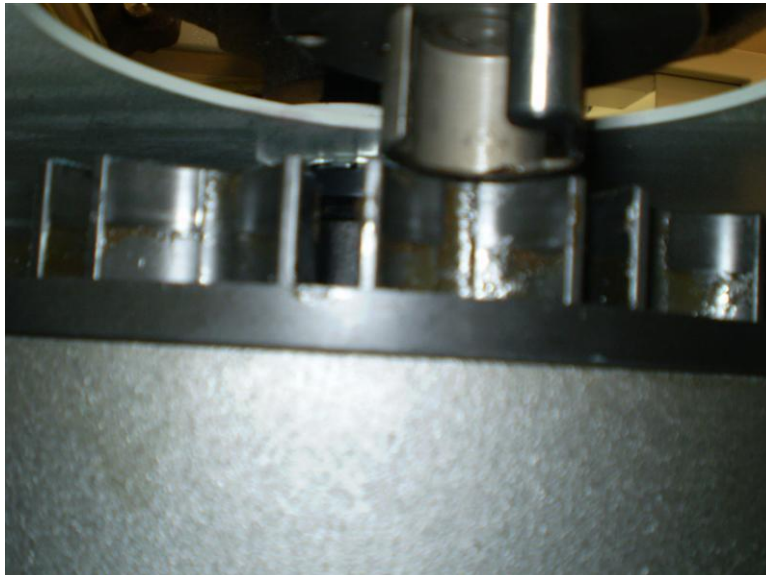

Figure 6.16.2a
8. Make certain that the Geneva plate (1) properly engages the locking segment (24) by gently rocking it back and forth while raising the mechanism (see Figure 6.16.2a).
13. Rotate the tool carousel shroud (12) until it lines up with the two M6X35 SHCS that secure the Shroud (12) to the ATC sliding body, install the screws.
14. Tighten the M12X50 SHCS that secures the Tool Carousel Assembly to the sliding mechanism to 50 ft-lbs. Make certain that the door moves freely and is not bound up on the Delran spacers (14), (15) also see figure 6.16.2a